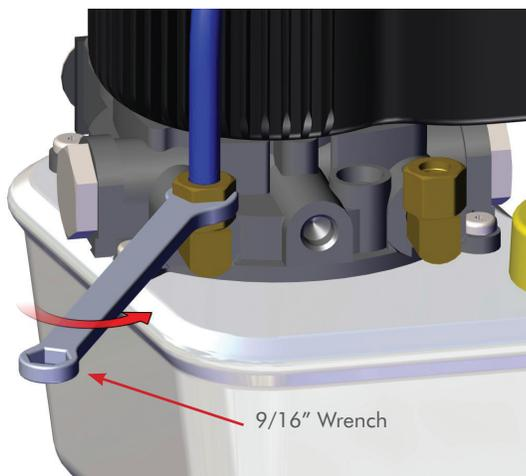
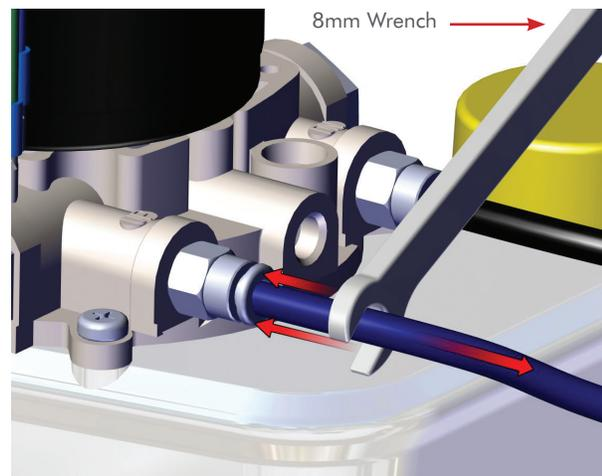

Figure 3
Figure 4
5. **Hydraulic Pump:** Using a 9/16" wrench turn the compression fitting nut counter clock wise (**FIG. 3**) or use a 8mm open ended wrench to press against the ring of fitting to release. (**FIG. 4**)